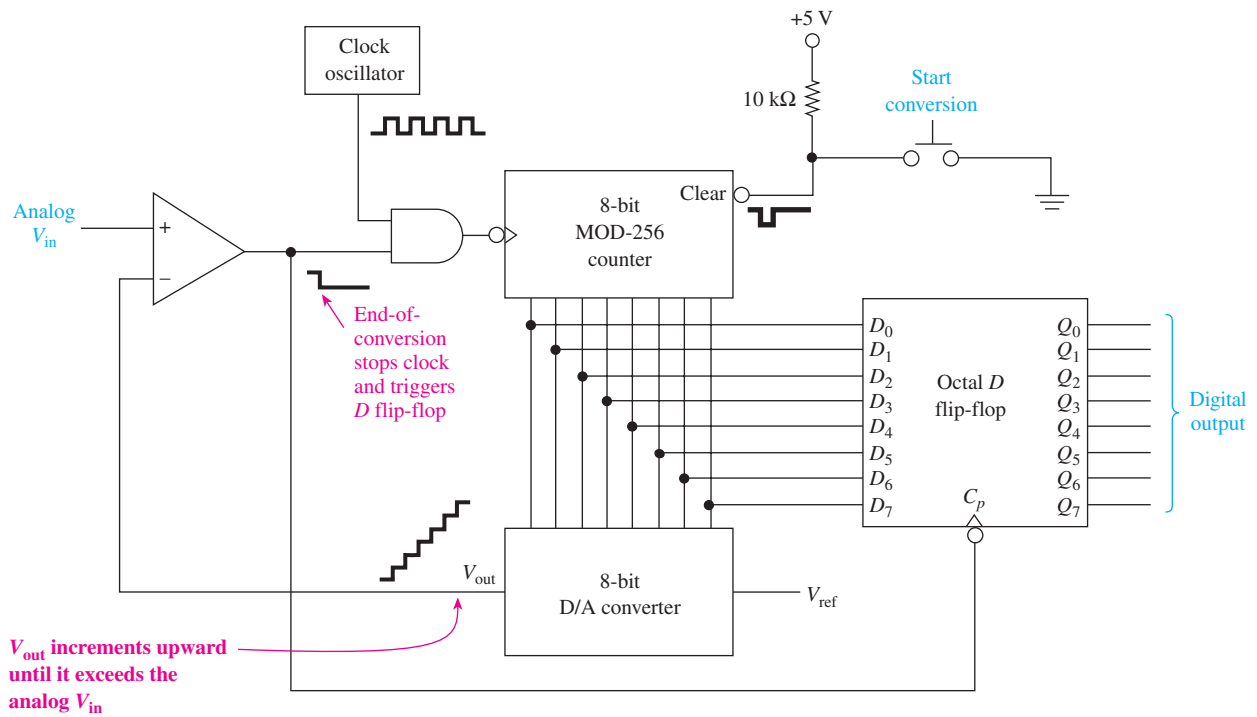

Figure 12 Counter-ramp A/D converter.
The counter-ramp method of A/D conversion (ADC) uses a counter in conjunction with a D/A converter (DAC) to determine a digital output that is equivalent to the unknown analog input voltage. In Figure 12, depressing the start conversion push button clears the counter outputs to 0, which sets the DAC output to 0 V. The (-) input to the comparator is now 0 V, which is less than the positive analog input voltage at the (+) input. Therefore, the comparator outputs a HIGH, which enables the AND gate,
15. The counter-ramp ADC of Figure 12 signifies an “end of conversion” when the (–) input voltage to the comparator drops below the (+) input voltage. True or false?
16. The digital output of the octal D flip-flop in Figure 12 is continuously changing at the same rate as the MOD-256 counter. True or false?